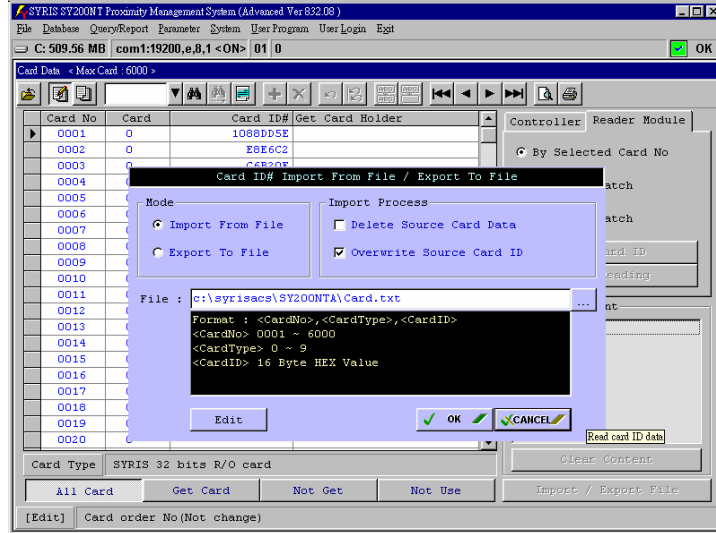

Fig.5-5 Read Card ID From File
2. Click "Import / Export File", wait next screen display, as Fig.5-5.